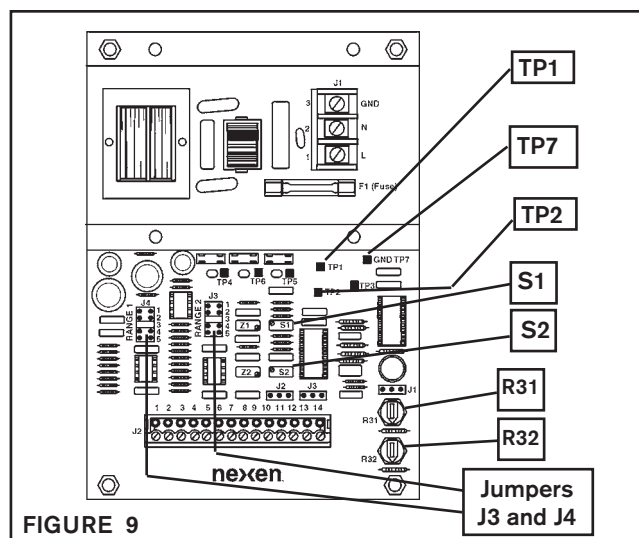

FIGURE 9
2. Connect a voltmeter to **TP7 (COM)** and **TP1** (See Figure 9).
3. Rotate **S1** clockwise to ____ VDC, increasing the reading at **TP1** (Example: Maximum Tension = 100 Lbs. with a 50 Lb. weight, adjust the output for 5.0 VDC) (See Figure 9).